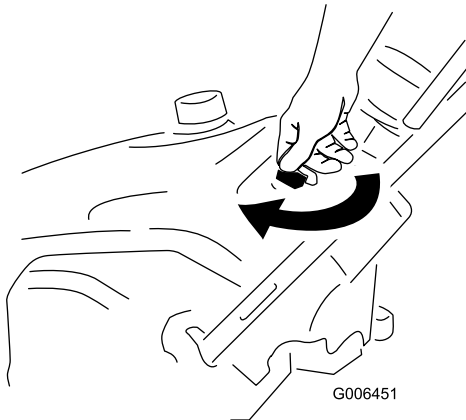

Figure 11
1. Turn the ignition key clockwise to the On position (Figure 11).